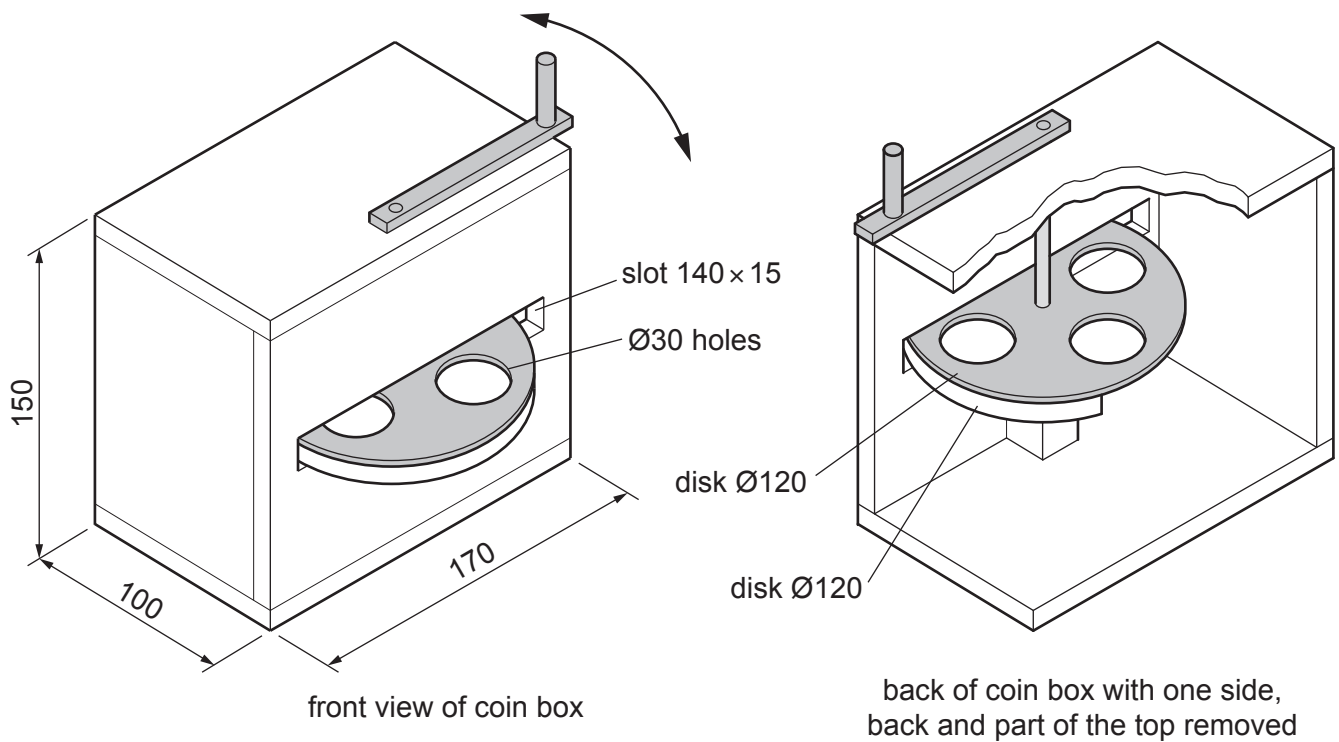

Fig. 12.1
- 12** Fig. 12.1 shows views of an incomplete design for a coin box used by children. The coin box is made mainly from MDF. Coins are placed in the Ø30 holes, the handle is turned, the top disk rotates and coins fall into the box.